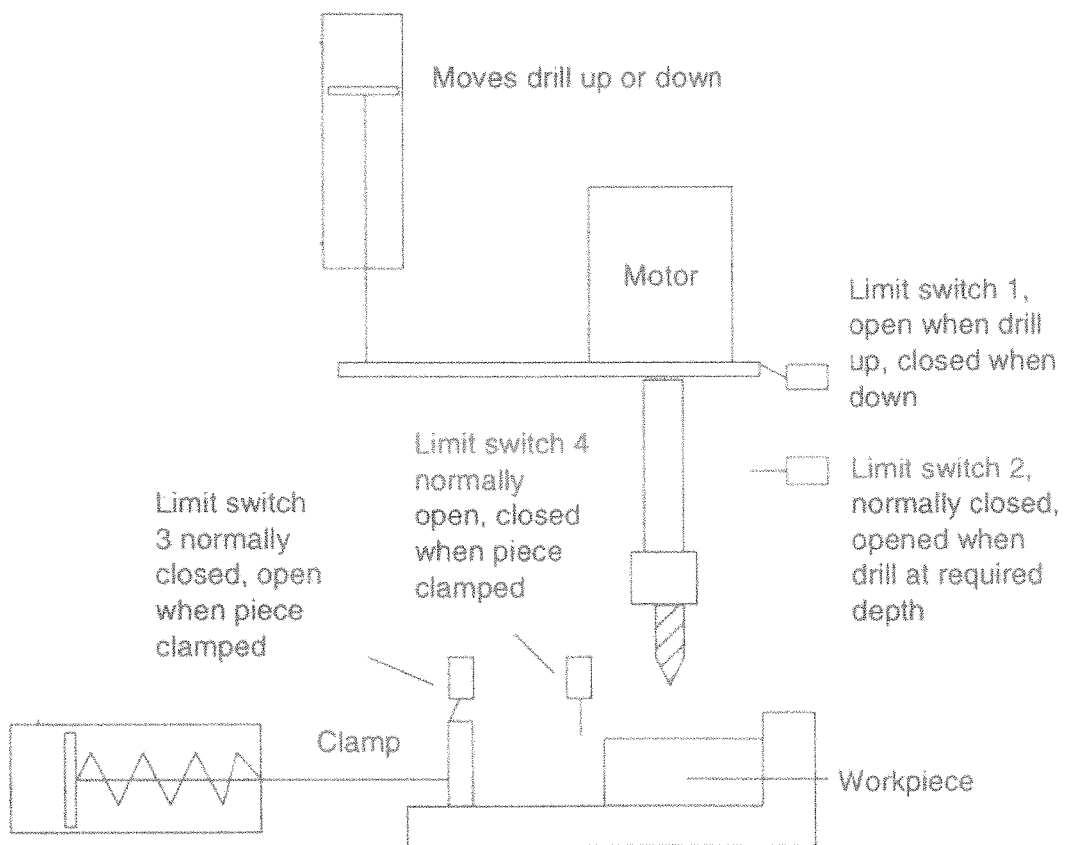

Figure Q2(iii): Automatic drill
- iii) A system designed for automatic drilling of a work piece is shown in Figure Q2(iii). A double acting cylinder is connected to the drill to move it up and down, and single acting cylinder is used to clamp the work piece until the drilling operation is finished. Four limit switches are positioned to detect the cylinders' positions as shown. Work pieces are manually placed on the vice for drilling and when the start pushbutton (PB) is pressed.